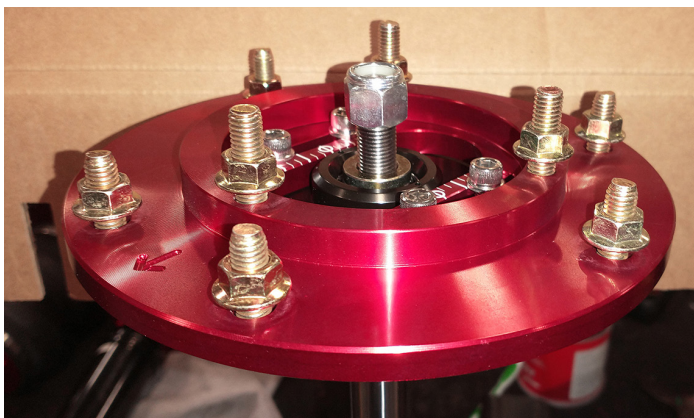

Fig. 24
9. Hand start the lock nut onto the strut rod (Fig. 24).